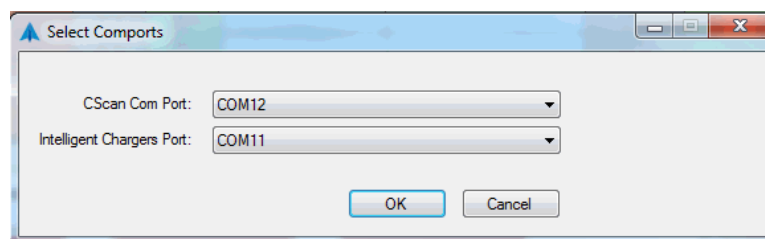

Figure 16 – Comm Ports
- Open Comm Port Operations – see [Figure 16]